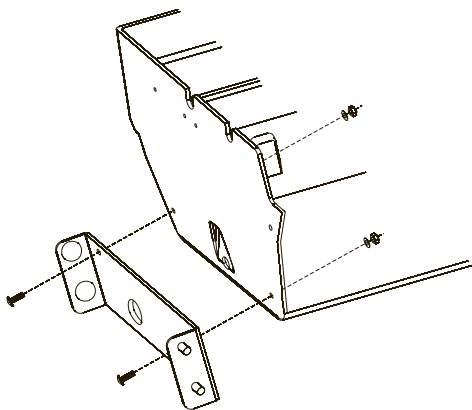

FIGURE 39
4. Place the support stiffener on the inside of the shelf using (2) #10-16x1/2" screws to secure in place.
5. Hang the shelf brackets on the lower pins of the Bracket Attach Assembly. Tighten the four screws to secure the bracket arms to the shelf. **See Figure 39.**